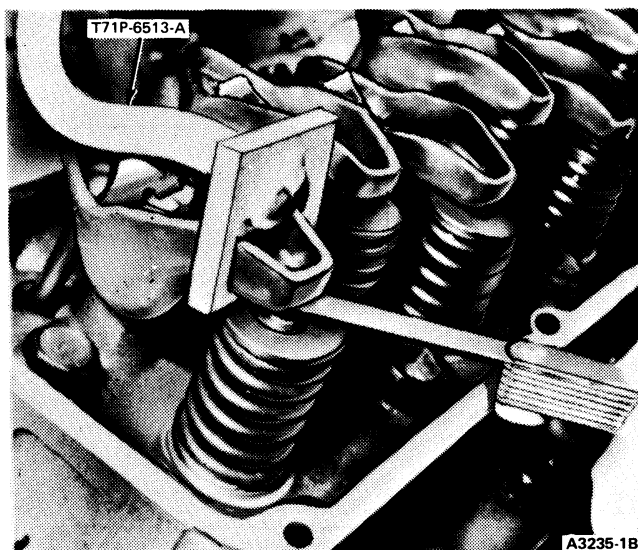

FIG. 3 Checking Valve Clearance
2. With the crankshaft in the positions designated in Steps 3, 4 and 5, position the hydraulic tappet compressor tool on the rocker arm. Slowly apply pressure to bleed down the hydraulic tappet until the plunger is completely bottomed (Fig. 3). Hold the tappet in this position and check the available